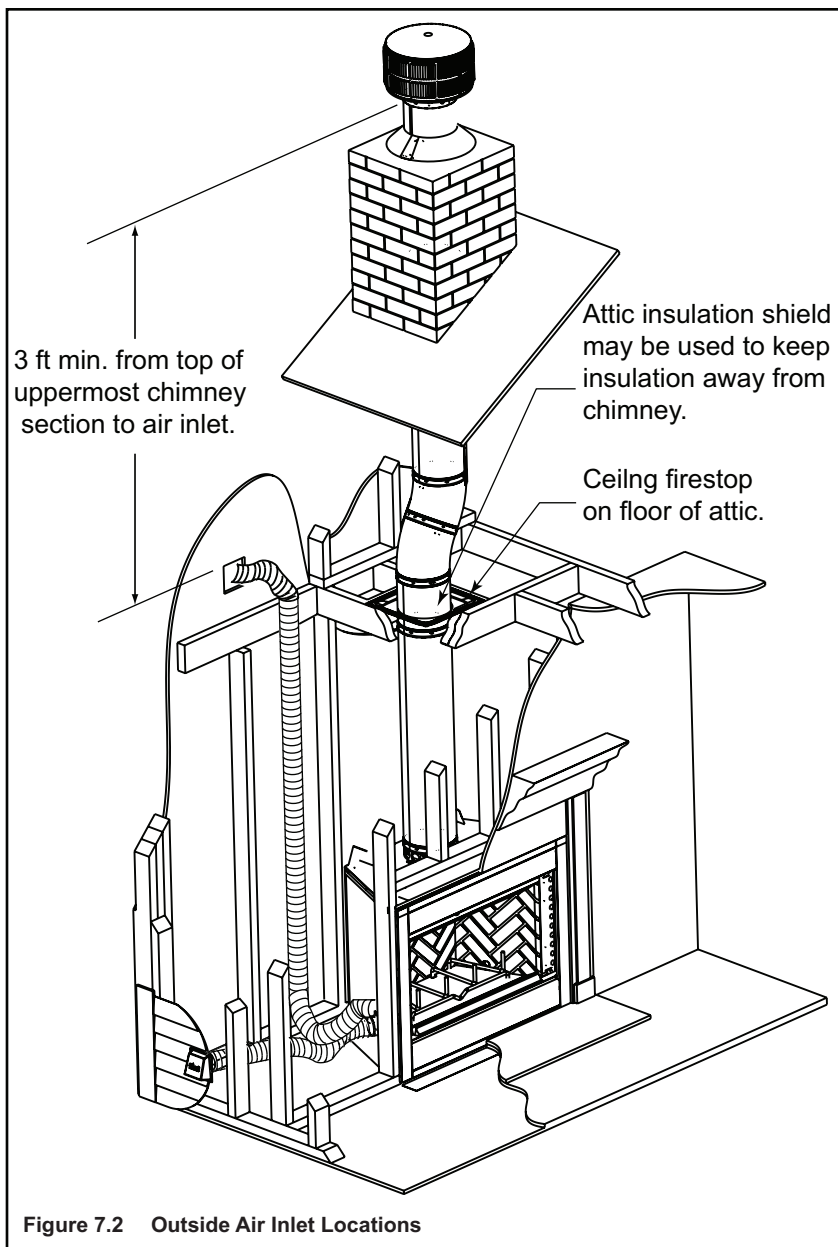

Figure 7.2 Outside Air Inlet Locations
- In some installations the air duct may need to be run vertically. In such an installation, a 3 ft (.914 m) height difference must be maintained from the top of the uppermost chimney section to the outside combustion air inlet. See Figure 7.2.